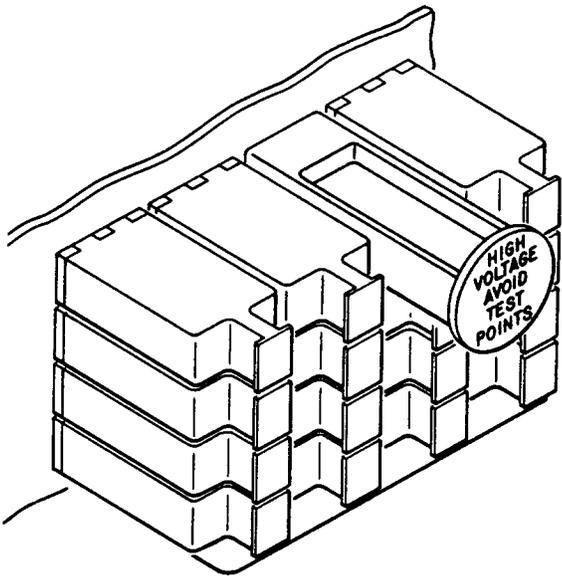

Figure 50—E Warning Marker
6.06 The E warning markers (Figure 50) are substituted for the protector units on connectors for pairs subjected to abnormally high voltages (such as breakdown test). The E warning markers disconnect outside plant cable pairs from central office equipment, with no protection on cable pairs. The marker is a red plastic device with three mounting prongs on one end and a warning marked in white on the opposite end.